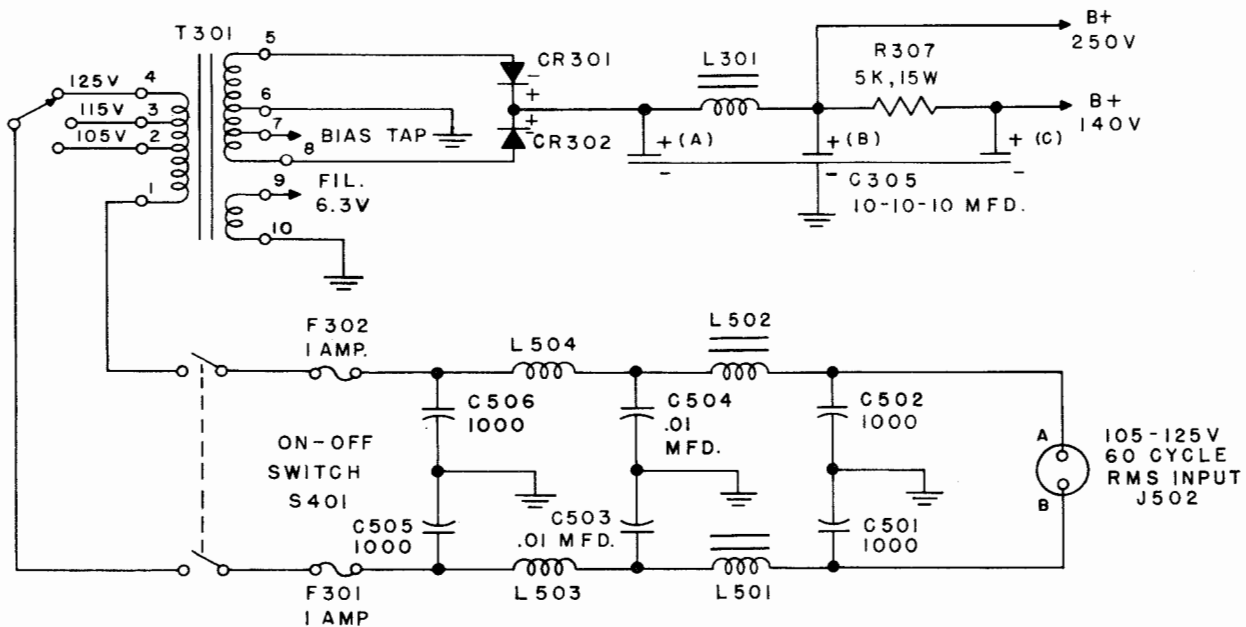

Figure 2-22. Simplified Schematic, High Voltage and Filament Supply
(2) POWER SUPPLY.—As shown in the simplified schematic, figure 2-22, the power supply consists of a full-wave rectifying system, using selenium rectifiers and provides for multi-tap selection of the AC voltage source. A two-pin POWER receptacle (J502), located on the rear compartment, provides connection to the AC power source. Both sides of the AC line pass through an RF filter system, located in the rear compartment. This filter is composed of two sections, the first section consisting of C501, C502, L501, L502, C503 and